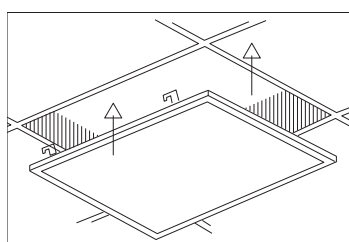

Figure 1
3. Before installing the panel in the ceiling, pull up the safety hooks on the back of the luminaire. (Figure 1)